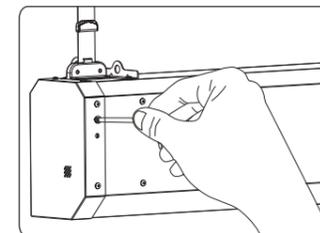

Figure 24
- a. Upper limitation adjusting. Take off the knob from the hole and use the provided allen key to adjust (figure 24). A clockwise adjustment will retract the screen (The distance between the screen and installation position will decrease) and a counter-clockwise adjustment will extend the screen (The distance between the screen and installation position will increase).